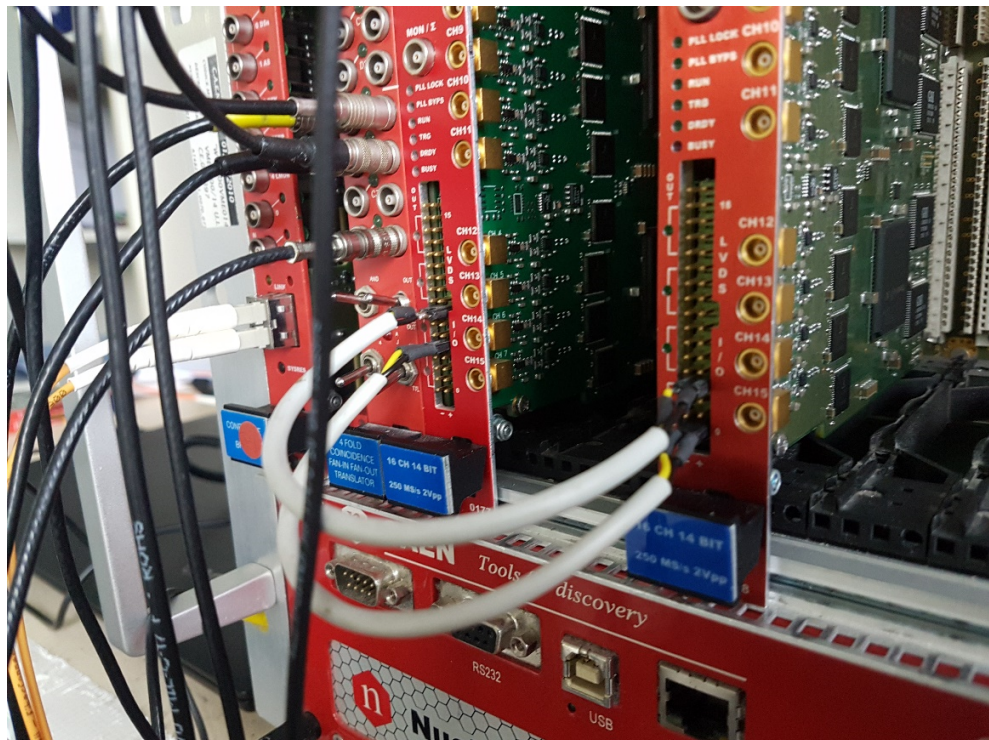

Fig. 4.2: RUN IN and BUSY daisy-chains through the LVDS connectors
- (b) The RUN IN signal is propagated from one board to the other in daisy-chain through the LVDS connectors in the lower part of the board front panel, as shown in Fig. 4.2. In particular, the LVDS pair 7 of each board is configured as a RUN IN output and should be connected to the LVDS pair 3 of the following board in the daisy chain (configured as a RUN IN input), see Fig. 4.2;
- (c) The BUSY signal is propagated from one board to the other in daisy-chain through the LVDS connectors in the lower part of the board front panel, as shown in Fig. 4.2. In particular, the LVDS pair 4 of each board is configured as a BUSY output and should be connected to the LVDS pair
0 of the following board in the daisy chain (configured as a BUSY input), see Fig. 4.2. Note that each board adds his own BUSY signal to the daisy-chained BUSY, so that at the end of the daisy chain one has the OR of all the BUSY signals from the boards. This latter signal, that is fanned-out from the TRG OUT connector of the last board in the daisy chain (see Fig. 4.3) must be used to veto triggers to the boards;